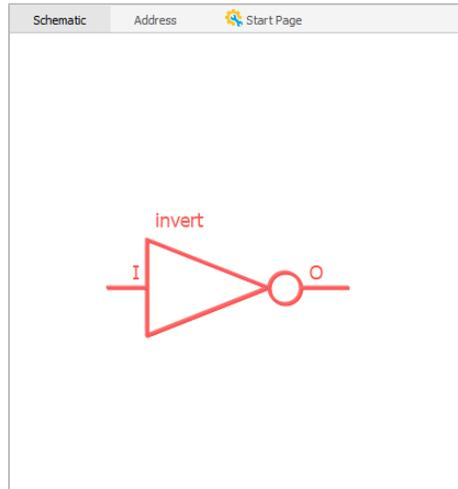

Figure 2.33. Schematic View Shows the Invert Module
1. From the IP Catalog, select the **invert** module. Double-click the invert module or drag and drop invert module to the Schematic view. The schematic block for the invert module in red appears in the Schematic view (Figure 2.33).